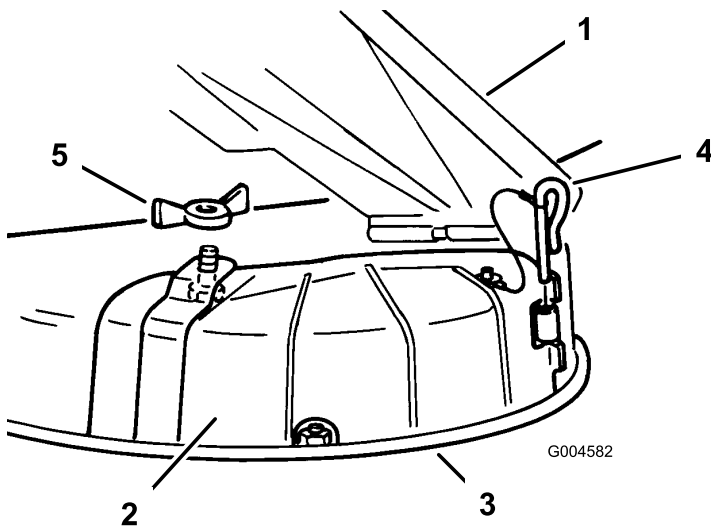

Figure 4
1. Lift the grass deflector and place the discharge cover over the opening onto the lower lip of the mower and slide it into the front hinge (Figure 4).
2. Slide the hinge pin through the hinge (Figure 4).
3. Secure the discharge cover to the mower with the wing nut (Figure 4).